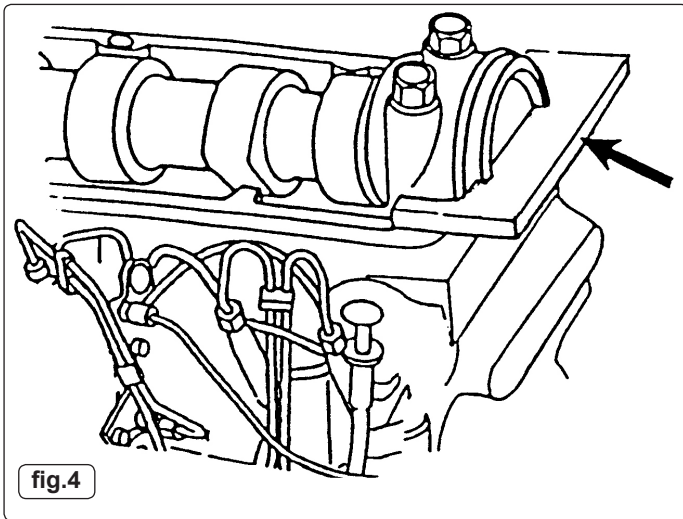

fig.4
- 3.2.2. Insert VS4115A-1 Setting Plate into the datum slot. Turn the camshaft so that one side of the Plate touches the surface of the cylinder head (**fig.4**).